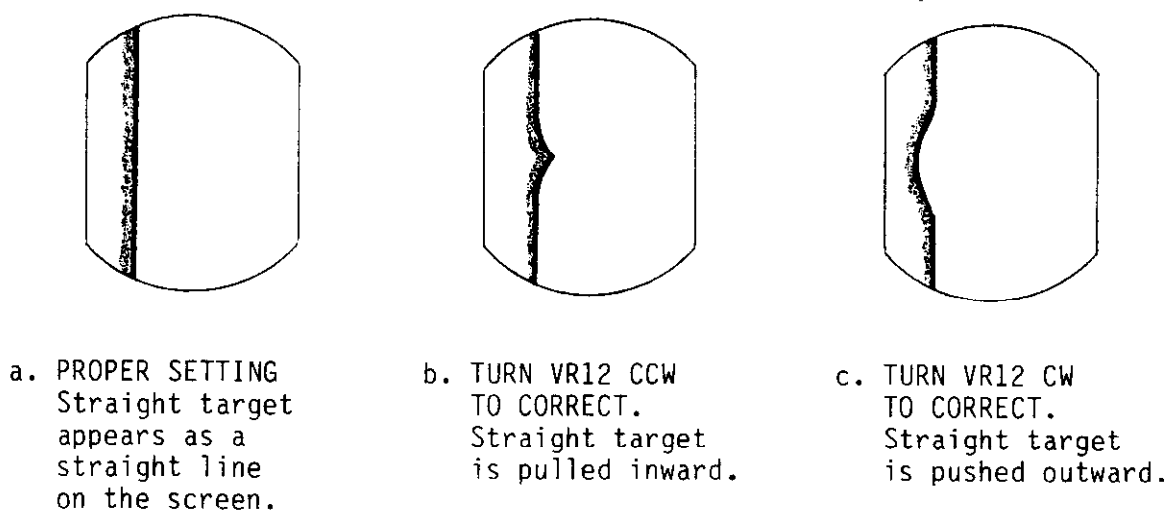

Fig.5-18 Transmission Timing
- \* Straight wharf or breakwater appears bent inward or outward at the center of the screen on 0.25 nm range. (See Fig.5-18.)